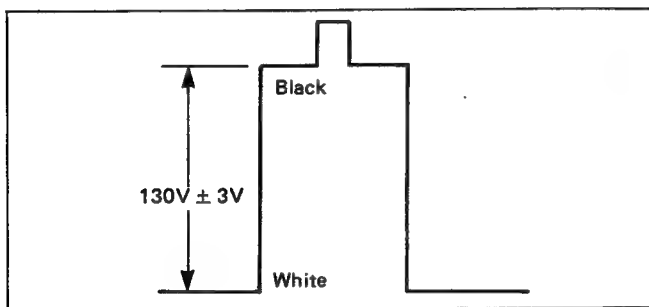

Fig. 26
- 6) Adjust G-Drive control VR (R1801) to achieve  $130V \pm 3V$  as shown in Fig. 26.